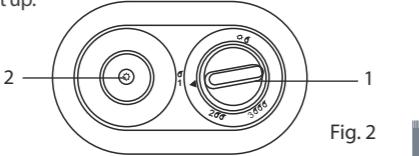

Fig. 2
Control panel (fig. 2)
2. Press and slowly turn the gas control knob on the control panel to 1 position (Fig.2). Keep the gas control knob pressed for 20-30 seconds. At the same time, press the piezo-ignition button several times, until the pilot lights up. Every time you press the piezo-ignition button, you can hear a loud click and see a spark on the piezo-ignition electrode. Continue keeping the gas control knob pressed for 10-15 seconds after ignition of the pilot flame in order to activate the flame detector.